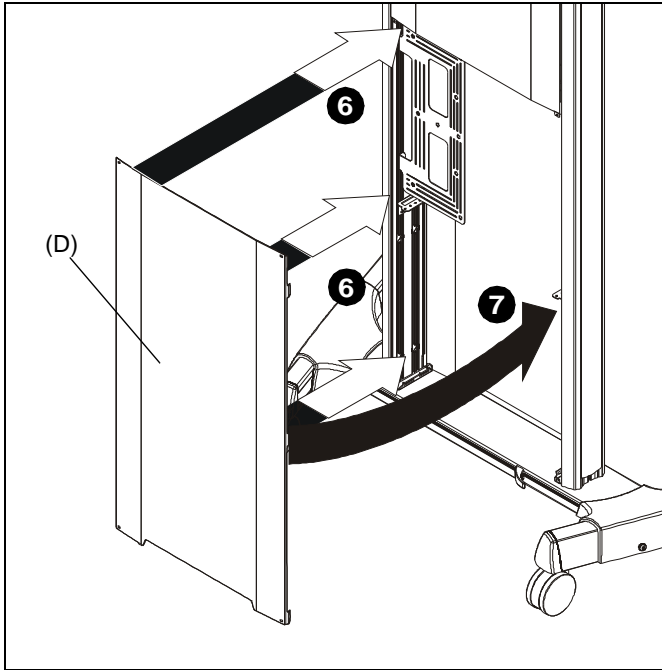

Figure 20
6. Insert tabs on one side of lower cover (D) into corresponding slots on side of column assembly. (See Figure 20)
7. Manipulate lower cover (D) so that it fits within lower cavity of column assembly and insert tabs on other side of lower cover (D) into corresponding slots on side of column assembly. (See Figure 20)